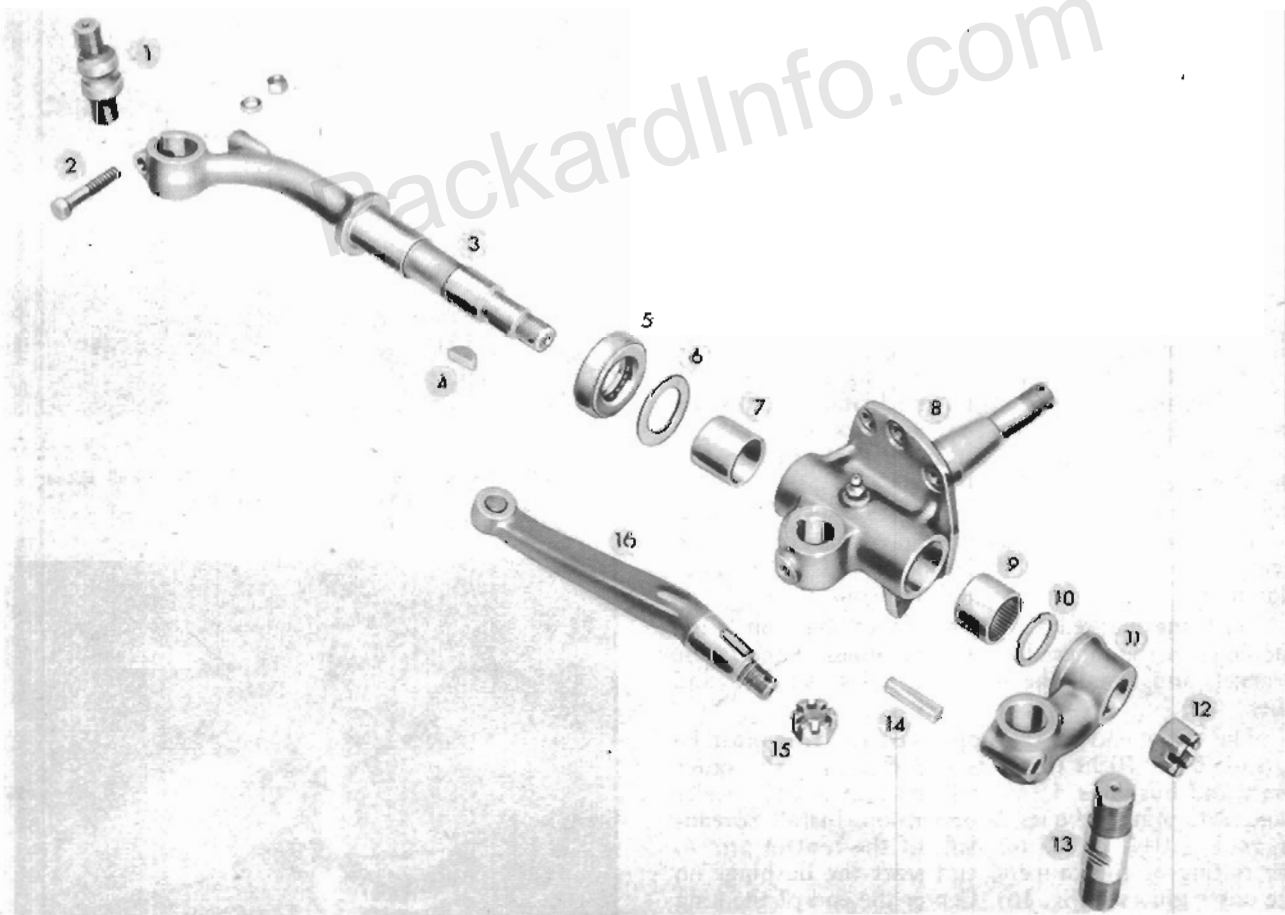

FIG. 18
Remove the cotter pin and king pin retaining nut (12, Fig. 18). Then, using a lead mallet, drive the king pin (3) upward out of the lower support (11). Remove the upper control arm outer pin bushings, and remove the king pin and steering knuckle assembly from the outer pin. Remove the Woodruff key (4) from the king pin, then remove the steering knuckle (8), shim (6), and thrust bearing (5). Remove the cork gasket (10) from the bottom end of the knuckle.